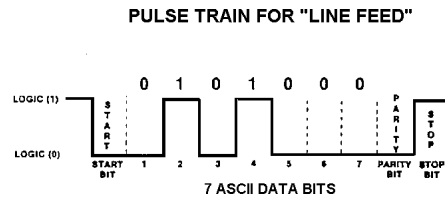

Figure 37. Data Format for Serial Communications.
Word length defines a character or the number of bits in a sequence that is handled as a unit and that can be stored in one location in the printer's storage buffer. The word length and format are the same for both RS232C and 20mA current loop. A serial data word consists of four parts: a Start Bit, seven (7) Data Bits which identify the specific character being transmitted, a Parity Bit, and one (1) or more Stop Bit (See Figure 37).